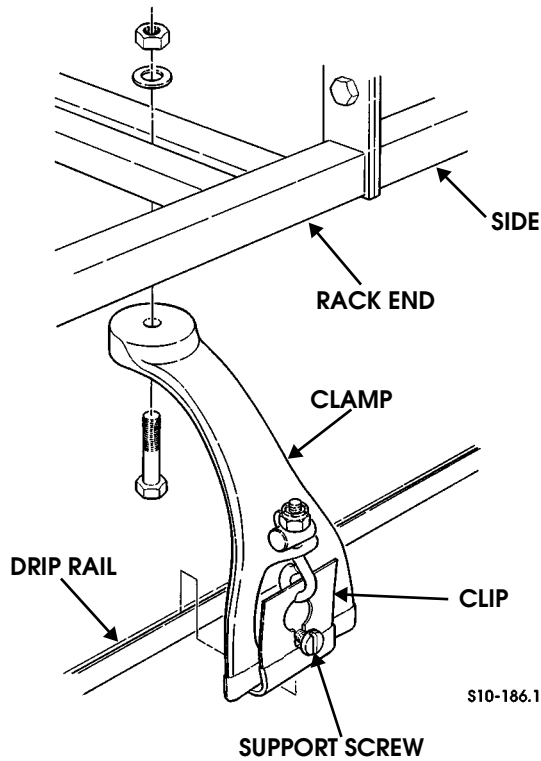

Figure 13-57: Roof Rack Clamp
1. Loosen support screw on clamp securing clip to clamp (Figure 13-57).